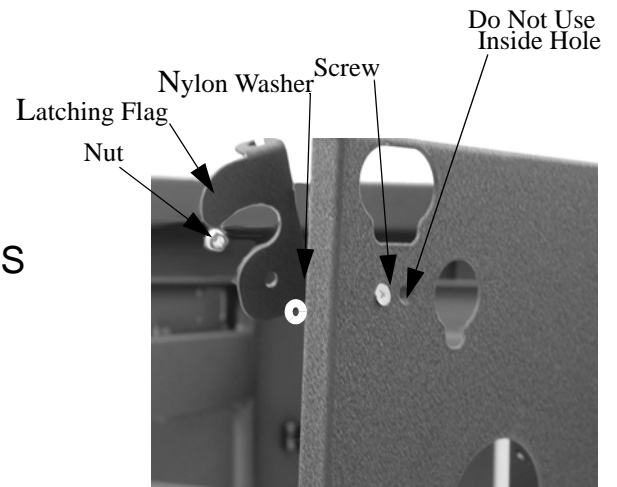

FIGURE 1. SONY 50" FLAG INSTALLATION
1. At the upper left of the faceplate (see Figure 1), insert the screw (provided) into the outer most small hole.
3. Install the latching flag (see Figure 1) and secure using nut (provided). Do not overtighten nut. Tighten nut enough to allow latching flag to move, but stay in place when moved.